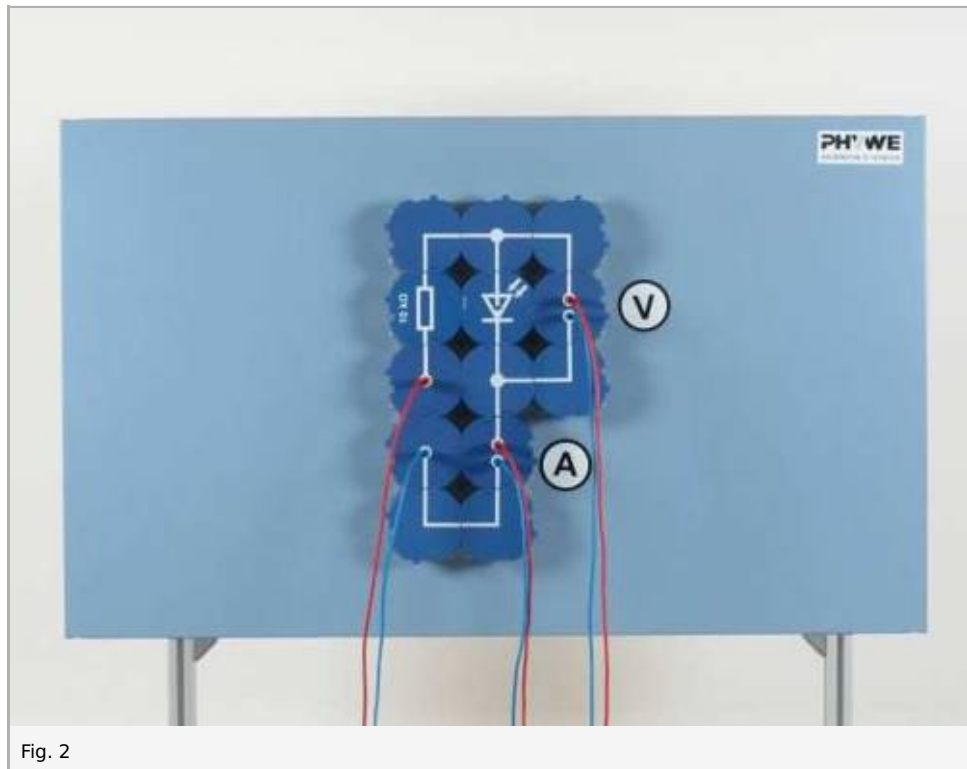

Fig. 2
- Change the experimental set-up to that in Fig. 2, starting with the polarity of the photodiode in the forward direction; select measurement ranges 1 V- and 1 mA-; first take care that as little light as possible is incident on the photodiode (if necessary, cover it).